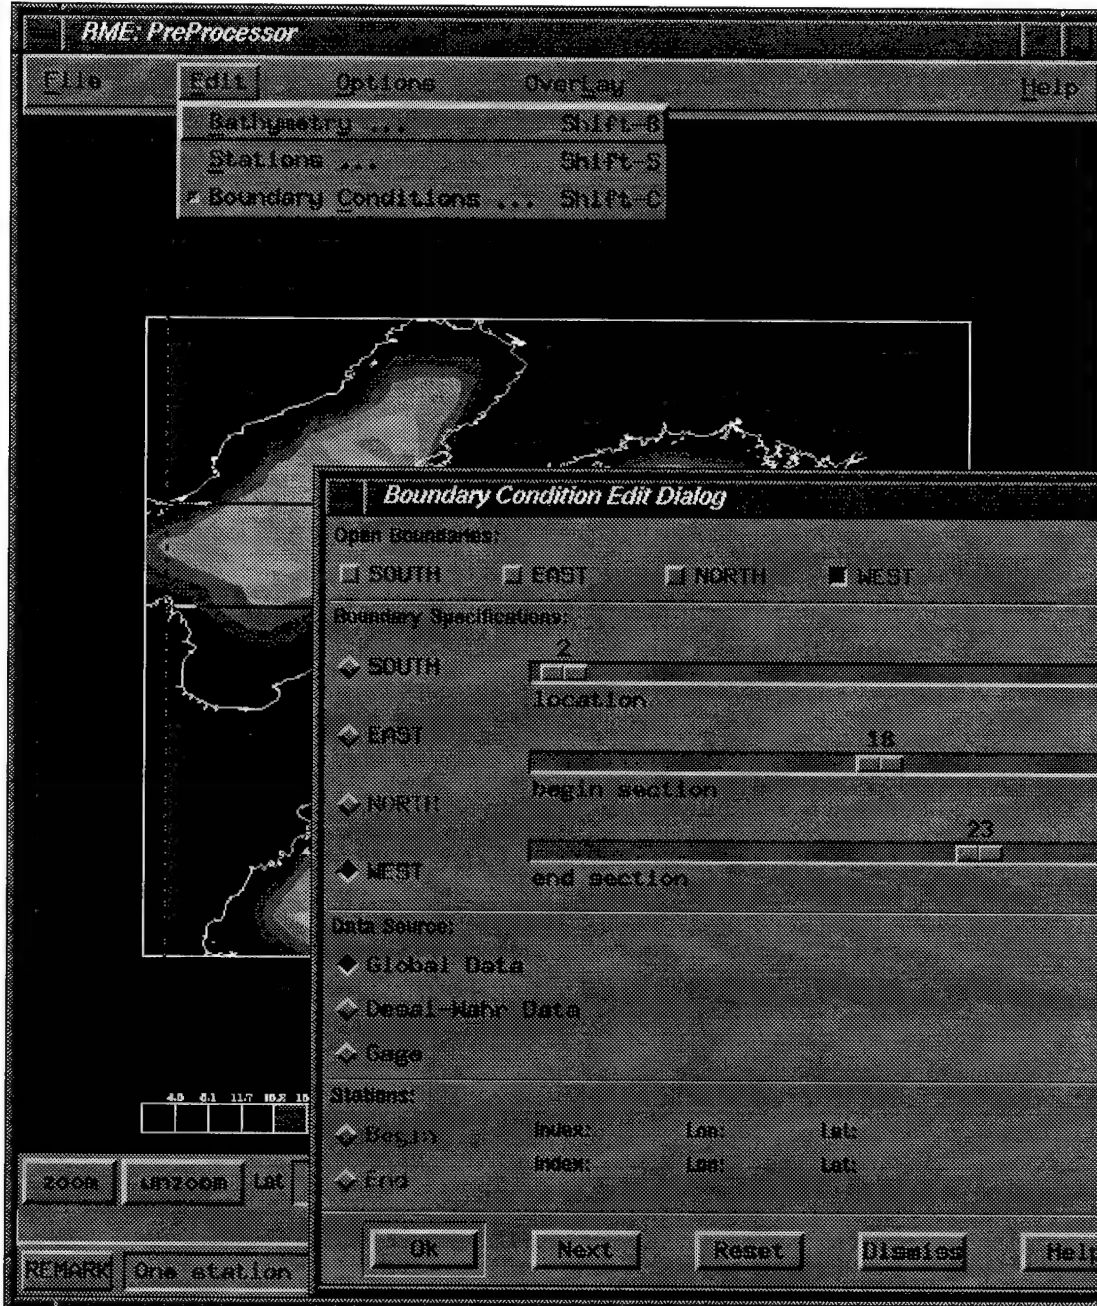

Figure 23 – Boundary Condition editing in the Pre-Processor
1. Activate the boundary conditions editor by clicking on the 'Boundary Conditions' button in the 'Edit' pull down menu. The 'Boundary Condition Edit Dialog' pops up (Figure 23). This is used to mark the boundary conditions using the direction slider bars and appropriate data.
5. Operate the slider bars to set up the boundary extents (see Figure 23).